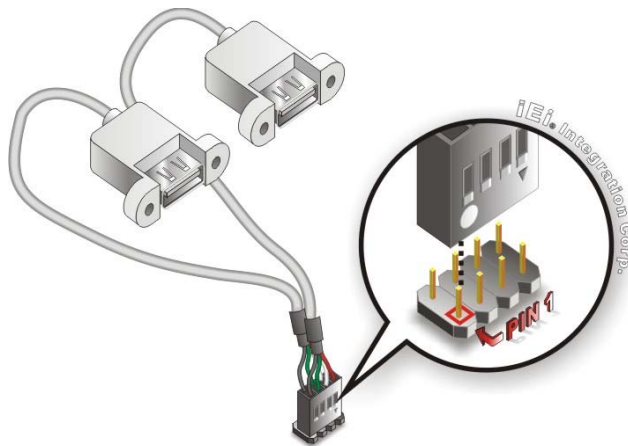

Figure 4-14: Dual USB Cable Connection
Step 3: Insert the cable connectors. Once the cable connectors are properly aligned with the USB connectors on the PM-PV-N4551/D5251, connect the cable connectors to the on-board connectors. See **Figure 4-14**.